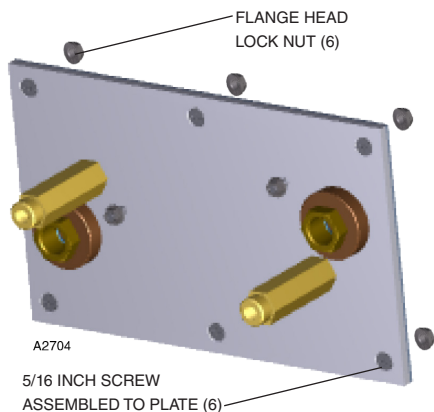

Figure 6—Q3013D Duct mount panel assembly and hardware
5. Remove the six lock nuts from the perimeter of the plate. The screws are threaded through the plate, and should remain in place (Figure 6).